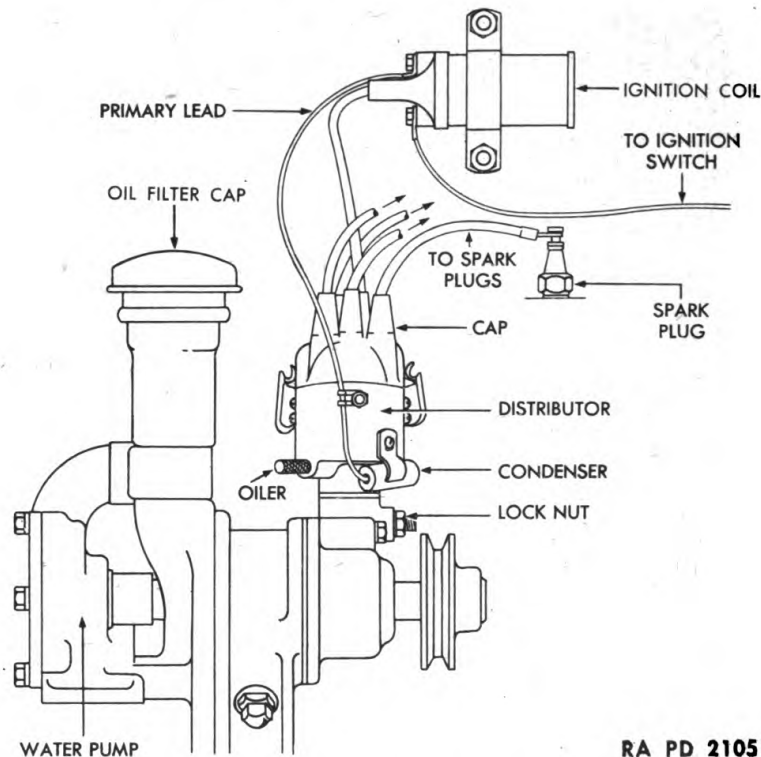

Figure 31 – Ignition System
(1) Disconnect cable from starting motor terminal post, remove three cap screws and lock washers securing starting motor to bell housing and lift out the assembly.
(2) Before installing new starting motor, check position of cover band screw. The screw must be in a position where it can be loosened after the starting motor has been installed.
(3) Place starting motor on bell housing so that the Bendix drive enters bell housing and secure in position with three cap screws and lock washers. Connect the cable to the starting motor terminal post.
59. IGNITION SYSTEM (fig. 31).